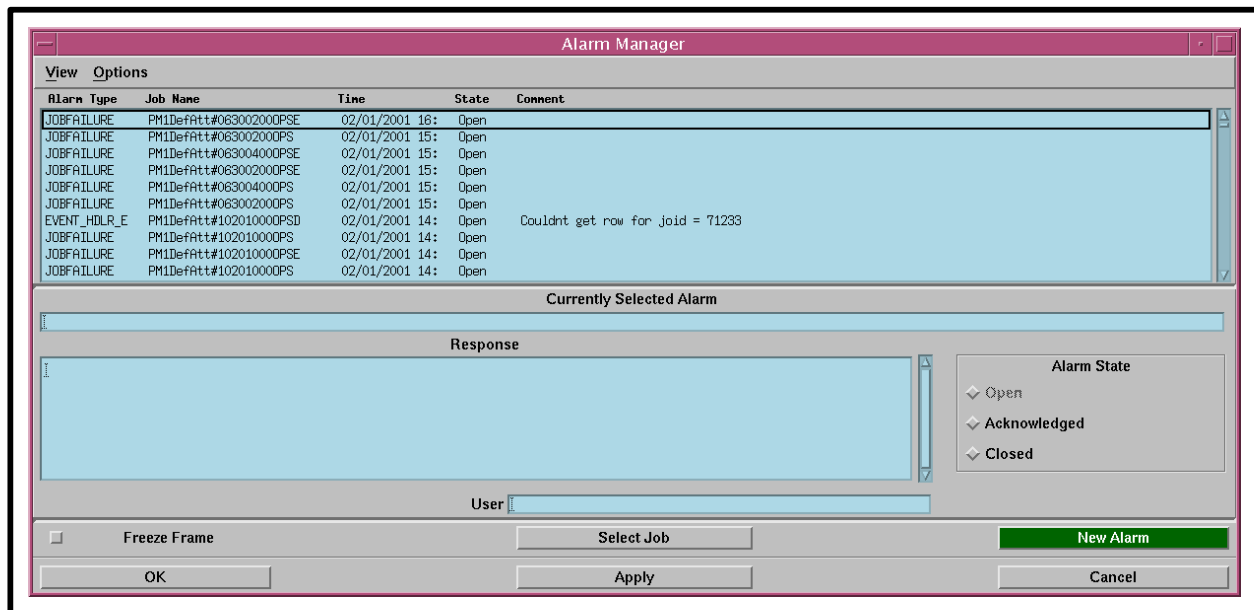

Figure 66. Alarm Manager GUI
- The **Alarm Manager** GUI (Figure 66) is displayed.